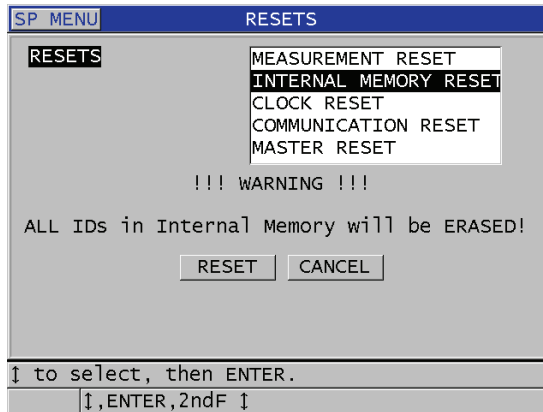

Figure 11-22 Warning message when resetting measurements
3. In the **RESETS** screen (see Figure 11-22 on page 189):